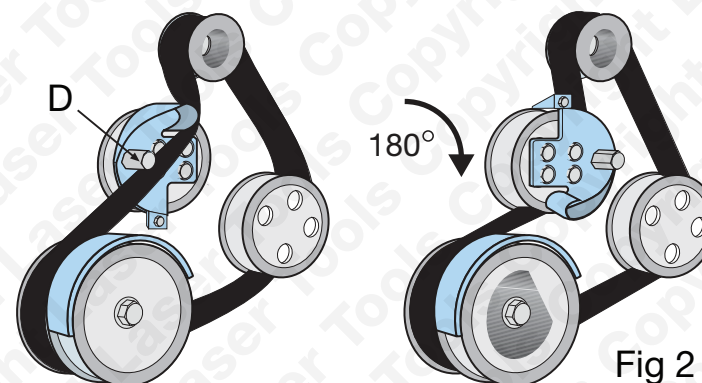
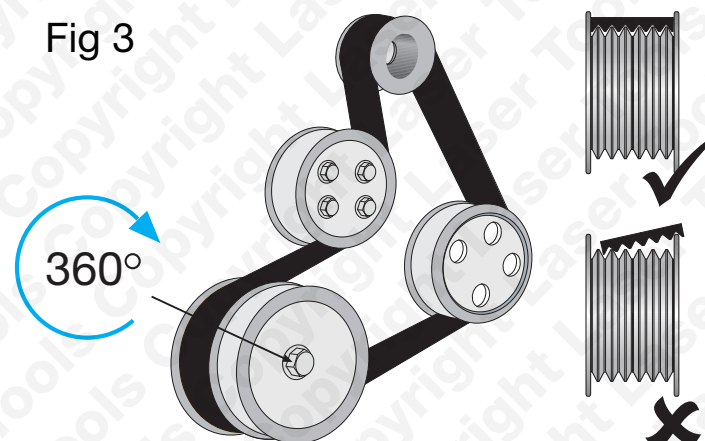

Fig 2
Fig 3
5. Refer to Fig 2: fit the new auxiliary drive belt on to the installation tool (A) and the remaining pulleys.
6. With a suitable 17mm spanner or driver on the drive hex (D), turn the installation tool (A) clockwise approximately 180° until belt is correctly located on all pulleys. (Refer to Fig 2.)
7. Loosen securing bracket (C) and remove the installation tool (A). Remove the drive belt guide tool (B). Crankshaft may have to be rotated to allow the drive belt guide tool to be released.
8. Refer to Fig 3: turn engine through at least 360° and visually check that new auxiliary belt is correctly located on all pulleys.